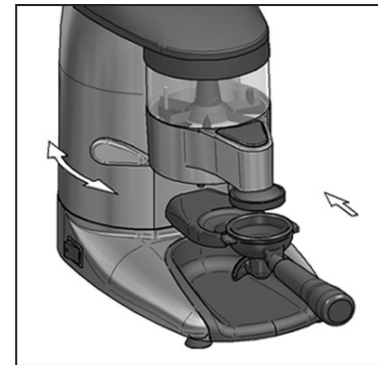

Fig. 7
To serve the coffee servings, place the portafilter on the support crutch (13 Elite - 9 Touch) as far in as possible so that it is positioned under the ground coffee discharge tube. Pull the dispensing handle (11) to obtain one coffee serving (one serving is equal to one cup of coffee), and release it so it returns to its normal position. Fig. 7.